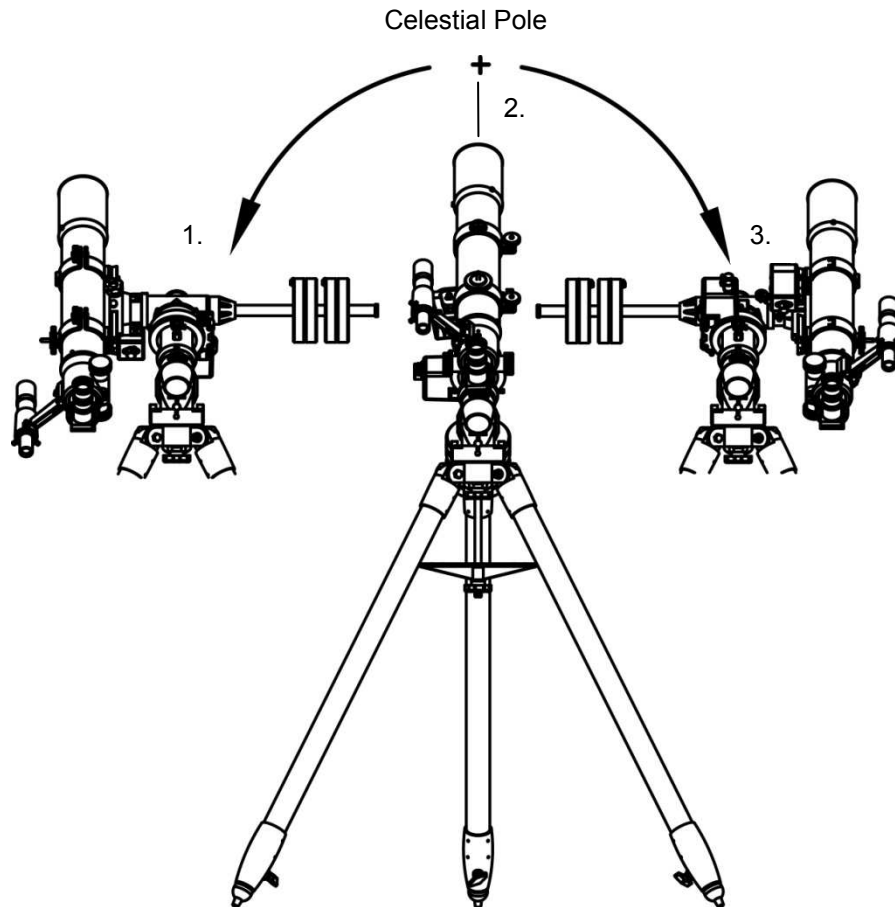

Fig 18
2.3.1 Pointing to the North Celestial Pole (NCP) (fig. 18)
For the following examples, it is assumed that the observing site is in the Northern Hemisphere. In the first case (Fig.18, mid position), the optical tube is pointing to the NCP. This is its probable position following the polar-alignment step. Since the telescope is pointing parallel to the polar axis, it still points to the NCP as it is rotated around that axis counter-clockwise (Fig.18, left position), or clockwise (Fig.18, right position).